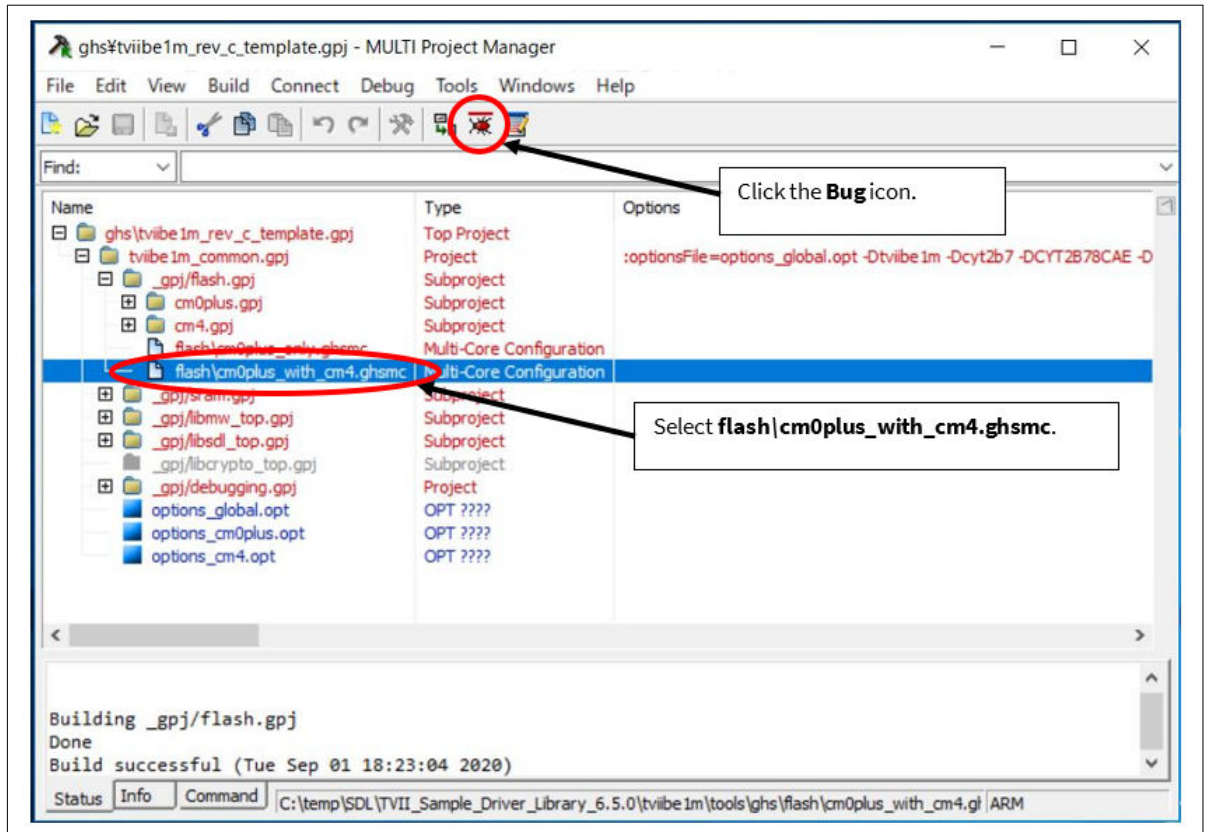

Figure 16 Debug the project of SDL project
1. For execution on the Flash memory, select flash\cm0plus_with_cm4.ghsmc and click the **Bug** icon as shown in Figure 16. Debugging of the program on the Flash memory begins.